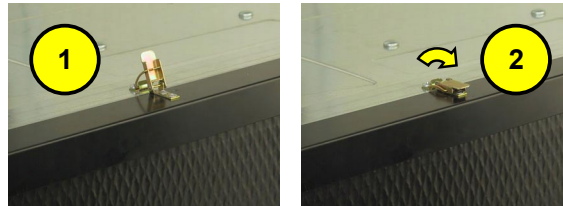

Figure 11
3. Pull the lever of the latch back as shown in figure 11. This secures the panel onto the fan. Now do the same for the latch and hook on the other side and then the same for the two latches on the bottom.